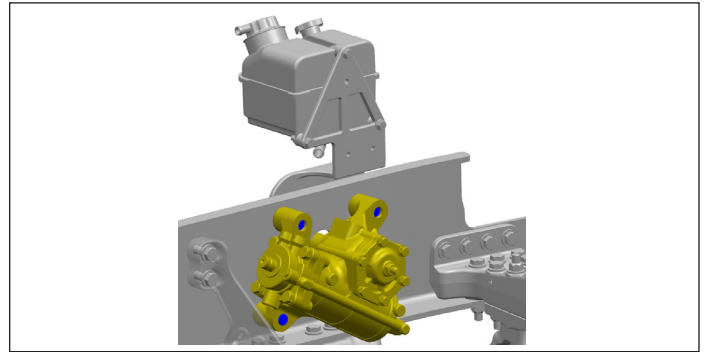

Figure 2 - Set-Forward Axle Type
13. On vehicles with set-forward axle types, the steering gear is assembled inside the frame rail. See *Figure 2*. The pitman arm needs to be disassembled before removing the gear from the frame rail. Refer to the section titled *Removing the Pitman Arm* to disassemble the pitman arm.
1. The pitman arm on set-forward axle vehicles (See Figure 2) should only be assembled after the steering gear is installed on the frame rail.